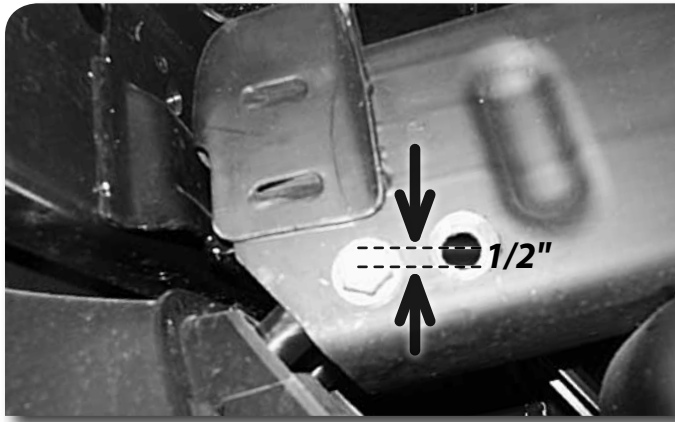

Figure 25
54. Flip the front tow hooks upside down to mount to opposite side frame rail. Align tow hook on outside of frame rail to mark new hole center to be drilled. Orientate the tow hook so that the rear hole will be slightly above the front hole, about 1/2" higher than the front. The tow hook with angle down. Drill 1/2" holes on frame side with only 1 mounting hole as shown. This will allow the tow hooks to be flipped and reused. **Figure 25**